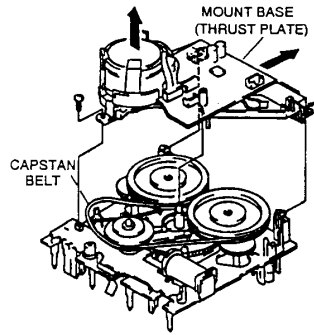

Fig. 1
- Remove the mount base (thrust plate) and the capstan belt (fig. 1).